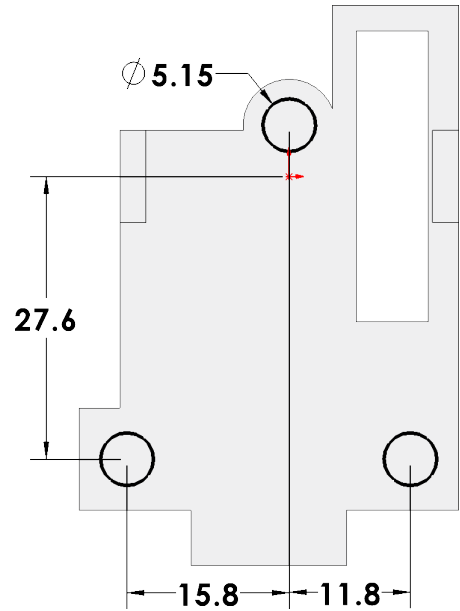

Fig. 34
Step 8. Click **Smart Dimension**  (S) on the Sketch toolbar.
Step 9. Add dimensions, **Fig. 34**.